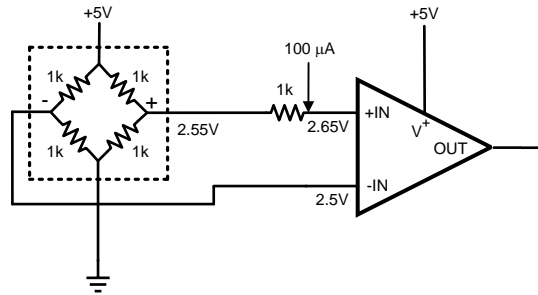
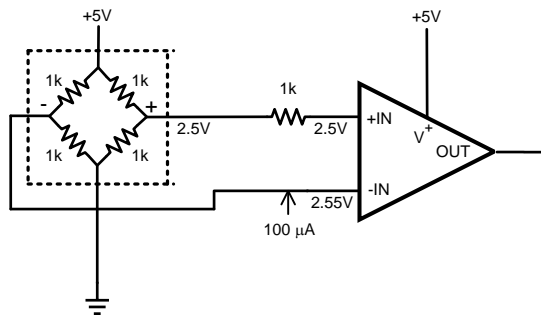

Figure 59. Degraded Input Line, Step 1
Figure 60. Degraded Input Line, Step 2
Figure 59 shows an example of a degraded connection between the bridge and the +IN pin of the LMP8358. This fault is shown by the 1 kΩ resistor placed between the bridge and the LMP8358. To detect this fault use the 1/50 feature by setting MUX[1:0] to 10b to test the +IN pin, POL to 0b, and G[2:0] to 010b for a gain of 50. This will give an overall gain of 1. Set CUR[2:0] = 101b to inject a 100μA current and read the output voltage (5082x). Next set MUX[1:0] to 11b and PIN to 1b to test the -IN pin as shown in Figure 60 and read the output (58C2x). If the voltages of these two measurements are different a degraded input fault exists.
* The values shown for a degraded input line will vary depending on the resistance in the line. This table uses the value in Figure 59 and Figure 60, 1k Ω .